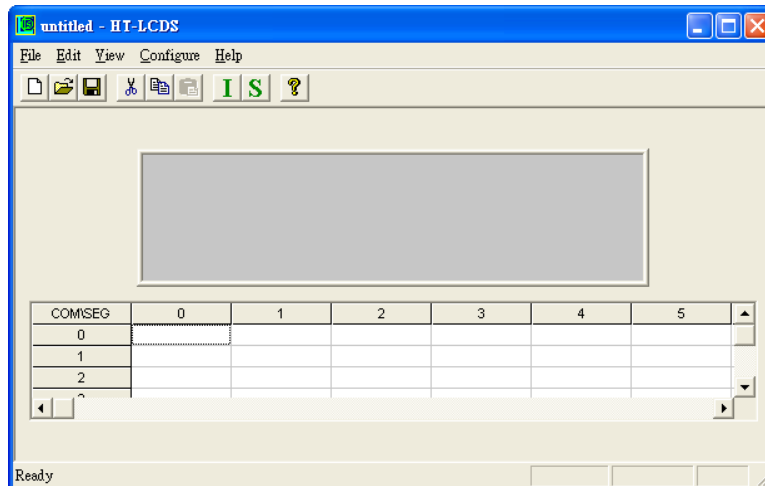
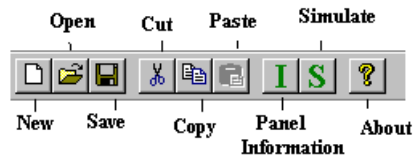
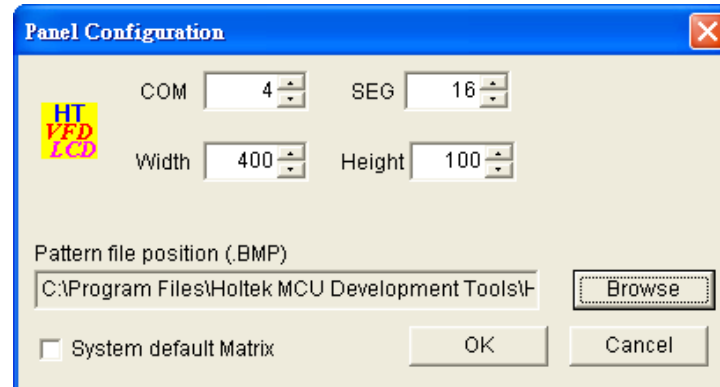
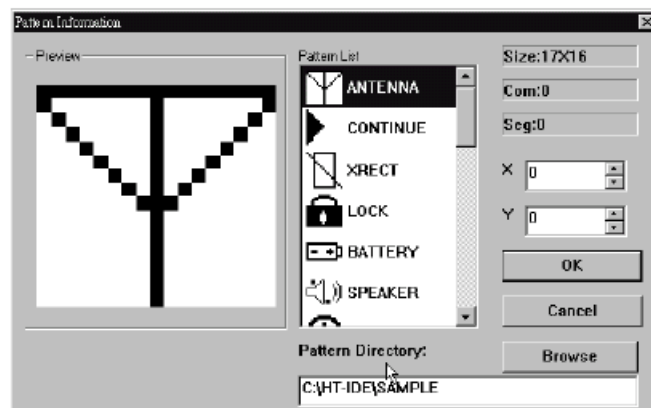

Fig 11-2
Fig 11-3
Fig 11-4
Fig 11-6
When selected from within the Tools menu, the LCD simulator as shown in Fig 11-2 is displayed if the corresponding panel configuration file of the current project exists. The file name of each bitmap pattern is shown at the specified COM/SEG position of the table. At the same time, these patterns are shown on the above panel screen. If the corresponding panel configuration file does not exist within the project directory, both the panel screen and the COM/SEG table will not be displayed. Fig 11-3 shows the HTLCDS menu bar information.
To setup the panel configurations by selecting the HT-LCDS File menu, New command. The Panel Configuration dialog box (Fig 11-4) will be displayed. Setup the correct LCD driver data, COM/SEG number, Width, Height and Directory of the pattern, then press the [OK] button. After setting up the panel configuration, the system returns to Fig 11-2 for pattern selection.
- The default number of the LCD driver for this microcontroller is displayed when Fig 11-4 is displayed. To ensure that these numbers are the same as the actual setting number of the LCD driver for the micro controller.
- To create a new panel configuration file using the HT-LCDS File menu New command. After having set the panel configuration, Fig 11-2 is displayed. The user then has to select the patterns from the Pattern Information dialog box (Fig 11-6) and set the COM/SEG positions. The section, Add a new pattern, describes the procedure in detail.
- To open an existing panel configuration file using the HT-LCDS File menu Open command. The patterns are displayed as shown on the panel screen in Fig 11-2 and the pattern file names are displayed as shown in the Fig 11-2 COM/SEG table position. Users can add/delete/change the pattern information, including the pattern file and pattern positions.
- Move the cursor to a COM/SEG position on the grid as shown in Fig 11-2 and double click the mouse. The Pattern Information dialog box, as shown in Fig 11-6, is displayed. All the pattern files (.bmp) in the project's directory are listed in the Pattern List box. The Size field is the bitmap size of the selected pattern, Com and Seg fields are the numbers of the selected COM/SEG position of this pattern. None of these three fields can be modified.
- Press the [OK] button and return to Fig 11-2, then click the File menu, Save command or click the Save button on the toolbar. The panel file has now been created or modified.
- As shown in Fig 11-2, select the COM/SEG position of the pattern to be deleted and press the [Delete] key or click the Cut button on the toolbar.
- Alternatively, as shown in Fig 11-2, select the COM/SEG position of the selected pattern and double click the mouse. The Pattern Information dialog box, as shown in Fig 11-6, is displayed. Select a pattern from the Pattern List box and press the [OK] button.
- As shown in Fig 11-2, use the Select-Drag-Drop method to move the pattern directly onto the panel screen.
- Alternatively, as shown in Fig 11-2, double click the COM/SEG position of the selected pattern. The Pattern Information dialog box, in Fig 11-6, is displayed. Set the X, Y value of the new position and press the [OK] button.
When the above operations have been completed and the system has returned to that shown in Fig 11-2, click the HT-LCDS File menu, Save command or click the Save button on the toolbar. The panel file has now been created or modified.